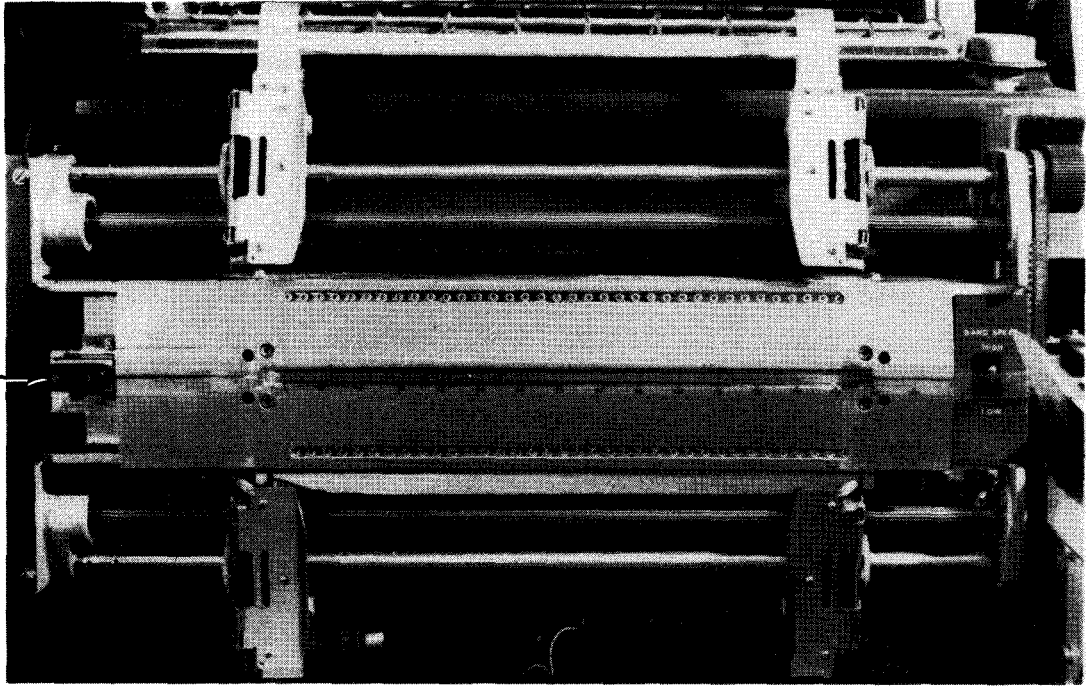

Figure 5-55. Alignment Gauge Tape in Position for Form Alignment
- b. Pull alignment gauge tape across the print head and latch it in place (Figure 5-55).